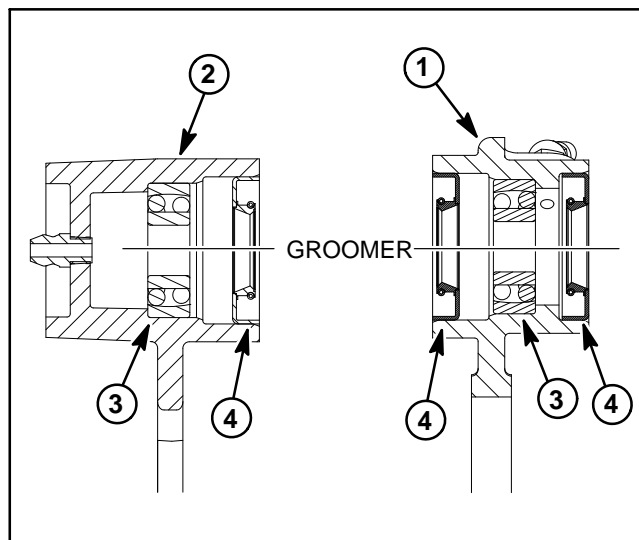

Figure 4
1. If seals, bearings or bushing was removed from groomer plates, install new components noting proper orientation (Fig. 4).